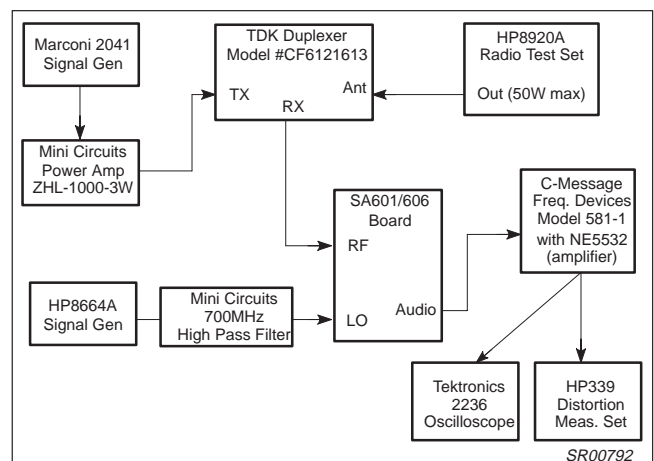

**Figure 10. Test Setup for Measuring RF Sensitivity, Adjacent and Alternate Channel Rejection and Spurious Rejection**
Figure 10 shows the block diagram of the test setup following the procedures outlined in the AMPS specification.
3. Check for the 700MHz high pass filter (see Figure 10).